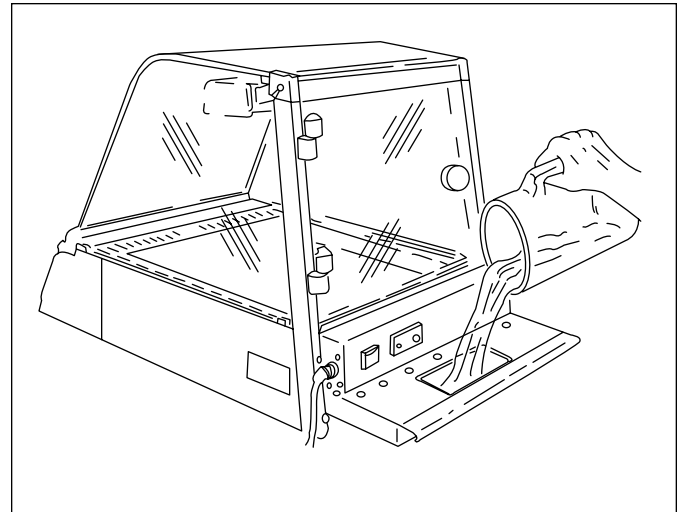

Figure 2. Filling Water Tray (DCH-10 Shown)
1. Slide the water tray(s) out until rectangular opening is exposed and fill with clean tap water (Figure 2). See *Specifications* for tray capacity.